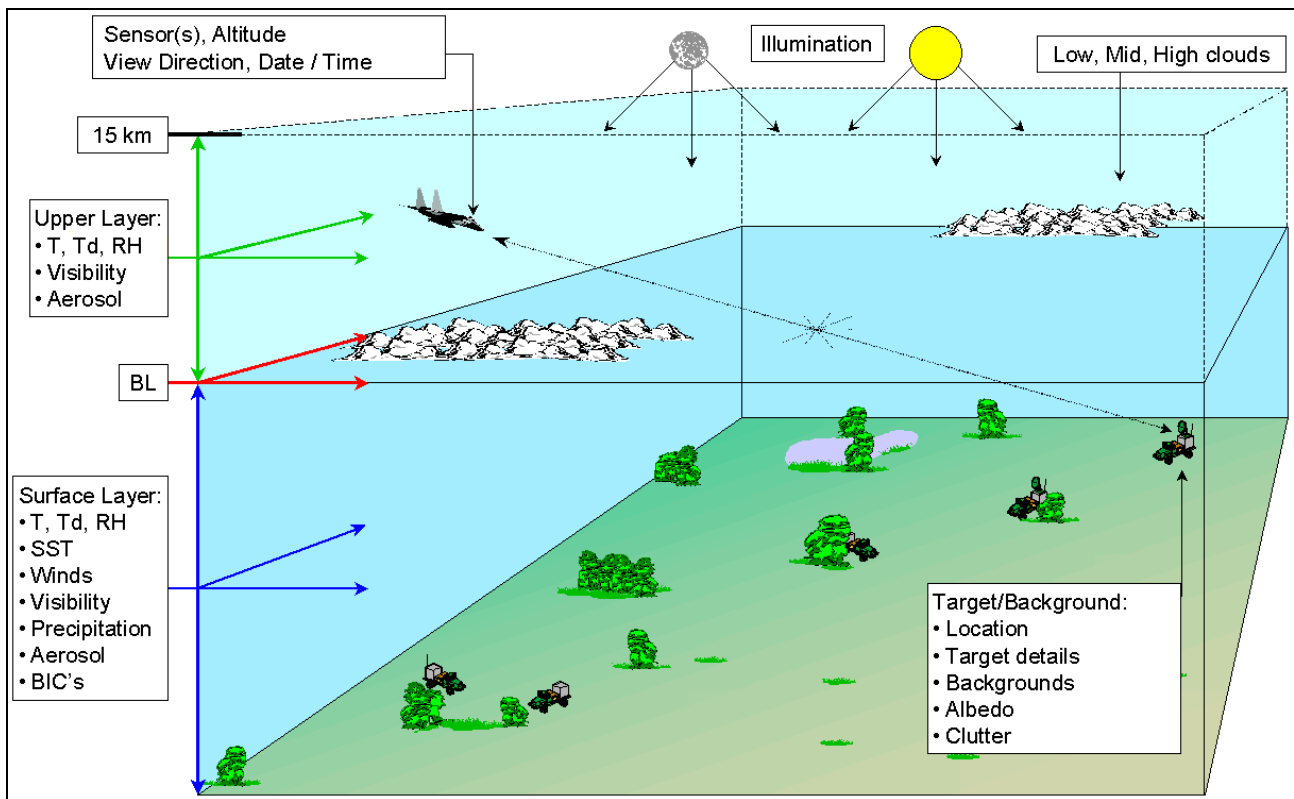

Figure 2 – "The METOC big picture"
3. Figure 2 presents an overall picture of the aspects that must be considered to produce an effective, accurate NVG or FLIR effectiveness forecast. Some of this information is easily obtained (sunrise, sunset, etc.), some is not (target position, operating state, etc.). Getting an accurate analysis of target / background conditions often requires interface with INTEL personnel and obtaining information from sources that may be new to you (e.g., UAV imagery). Some considerations are listed below and are discussed within this presentation.